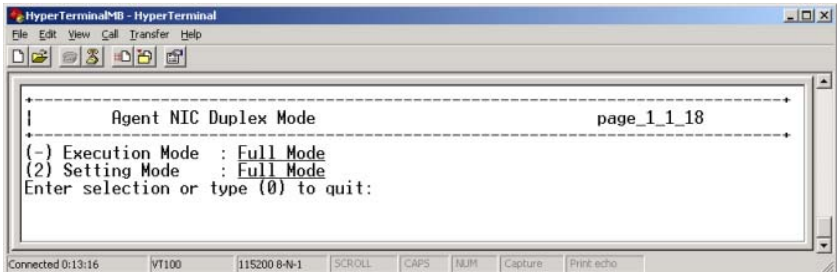

Figure 21: Agent NIC Duplex Mode menu
- i The management blade LAN controller only runs at 10 Mbit/sec. Duplex mode must be defined manually via the *Agent NTC Duplex Mode* (see figure 21 below).